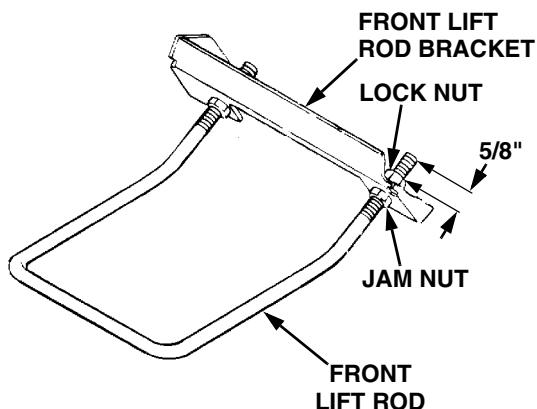

**Figure 52**
7. Side-to-side leveling is obtained utilizing the adjustment ferrule and right hand lifty link rod (Refer to Figure 52).
8. Loosen the upper jam nut on the lift link rod and turn away from the adjustment ferrule. Turn the lower lock nut upward (tighten) on the threads of the rod to raise the right side of the mower deck. Turn the lock nut down (loosen) on the threads to lower the right side of the mower deck (See Figure 52).